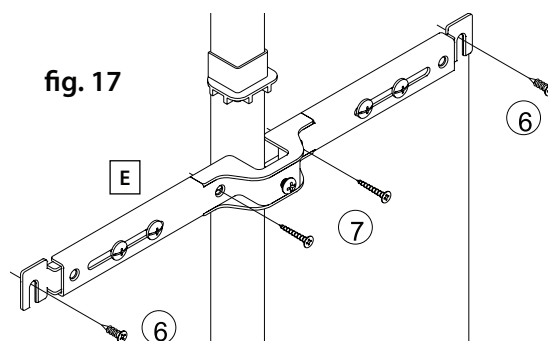

fig. 17
**20)** Attach the remaining door mount bracket(s) (E) as shown in figure 17. The pilot holes you drilled in step 13 should align. It is important that this door mount bracket fit closely under a basket so that it does not get in the way of storage.